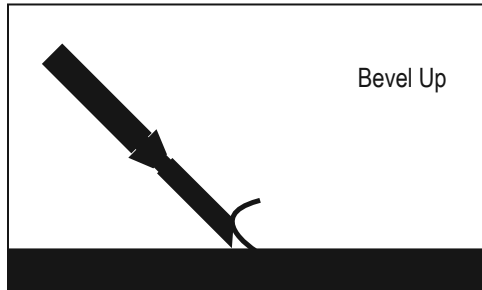
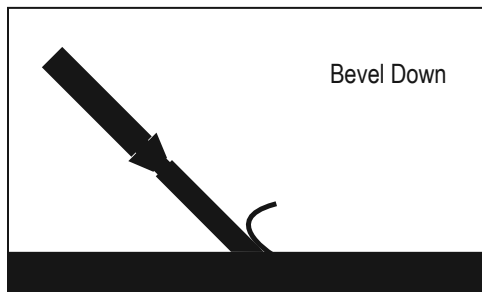

FIG. 6
FIG. 6.1
- Normally, bevel on blade is up for concrete (Figure 6); bevel down for wood (Figure 6.1)